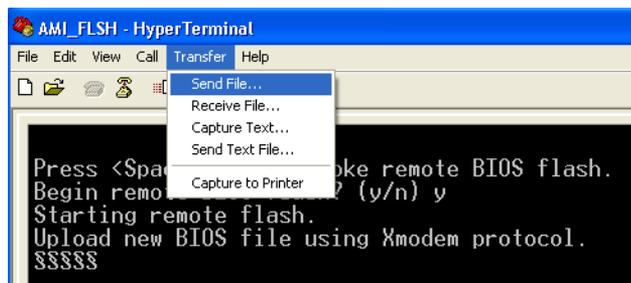

Figure 7-6 BIOS—Recovery/Flash Transfer
- a. Select **Transfer** → **Send File ...** as shown in Figure 7-6.